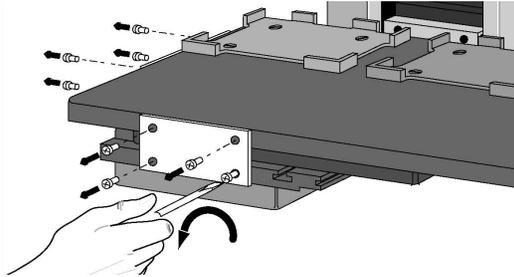

Figure 2-2: Removing Shipping Plates
3. Remove the metal shipping plates on the front and side of the stage with a Phillips-head screwdriver. (See Figure 2-2.) The stage should now move easily side to side and in and out.